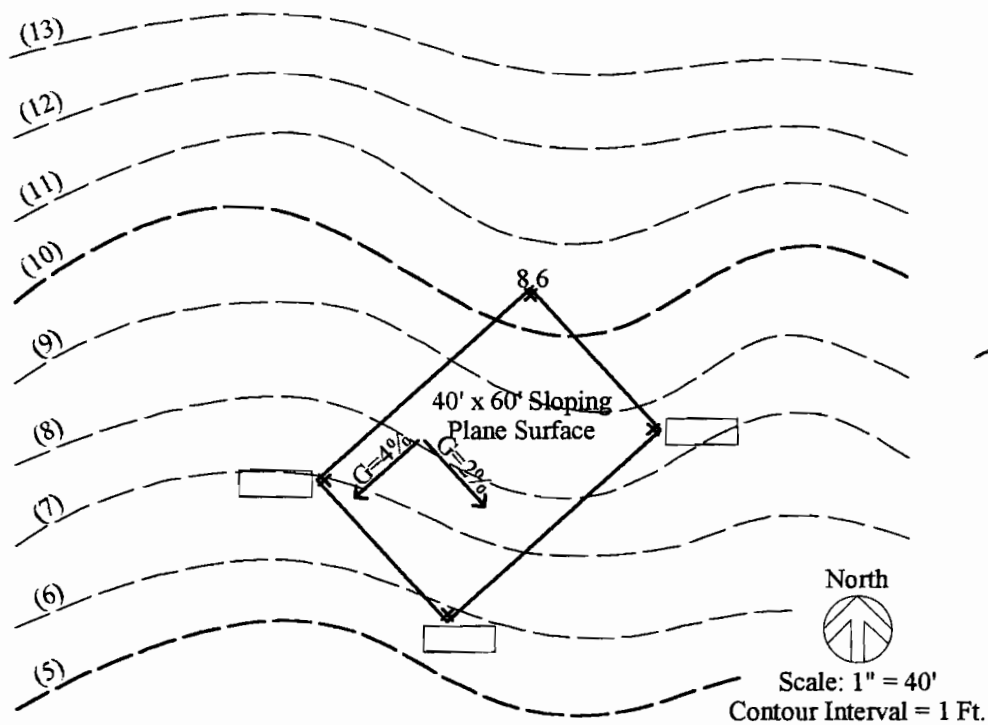

Figure 4-18. Horseshoe Swale for Sloping Plane Surface *
The process for designing a horseshoe swale for a *sloping* plane surface is described in this section. The first example will be based on a sloping plane surface as shown in Figure 4-18. (The second example will explain the design of a horseshoe swale for a *level surface*.)
Design Criteria for the Sloping Plane Surface shown in Figure 4-18:
Step 1. Study the sloping plane surface shown in Figure 4-18. Points to look for: